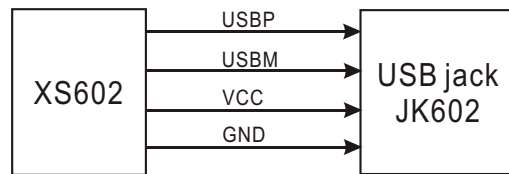

Figure 3.2.14.1 USB jack circuit block diagram
1. USB jack circuit block diagram is shown in the figure 3.2.14.1: